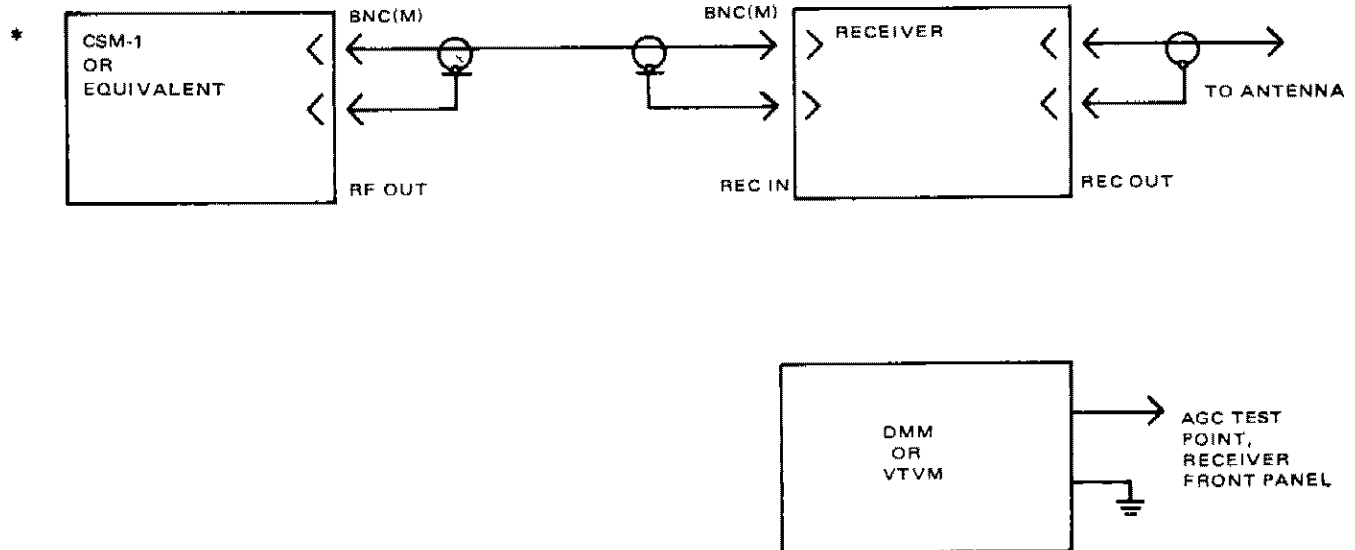

Figure 6-6. Test Setup for Final Checkout
**6.8 FINAL CHECKOUT.**- After a repair or performance procedure has been made, the following procedure should be performed before restoring the equipment to service. Figure 6-6 shows the test setup.